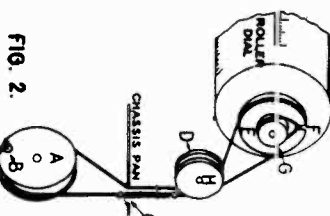

FIG. 2.
3. Turn the range switch to the Short Wave position -- all the way counterclockwise. Pulley A on the range switch shaft should be in the position shown in Fig. 2.